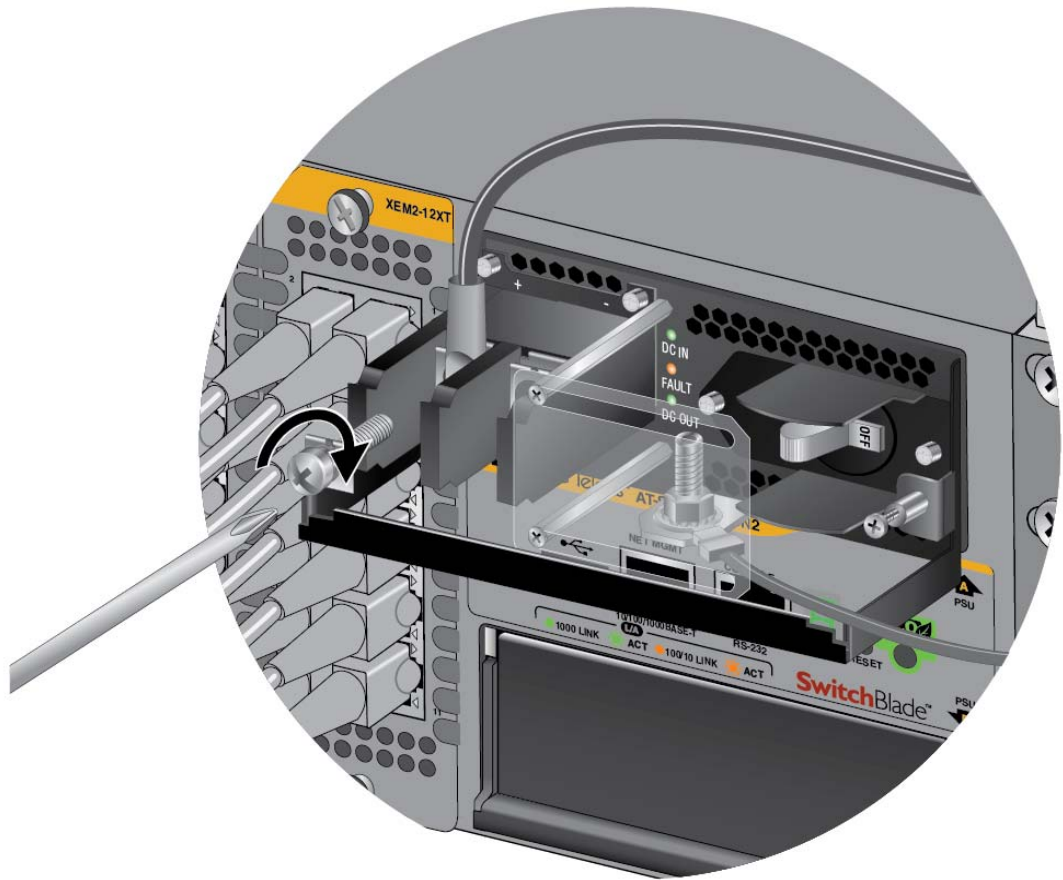

Figure 72. Connecting the Positive (+) Power Wire with a Straight Terminal
6. With a #3 Phillips-head screwdriver, connect the positive (+) power lead wire to the positive terminal on the power supply, with one of the terminal screws removed in the previous step. The positive terminal is on the left. You may attach the terminals with the wires either above or below the terminal block. Figure 72 on page 107 shows the positive wire above the terminal block.